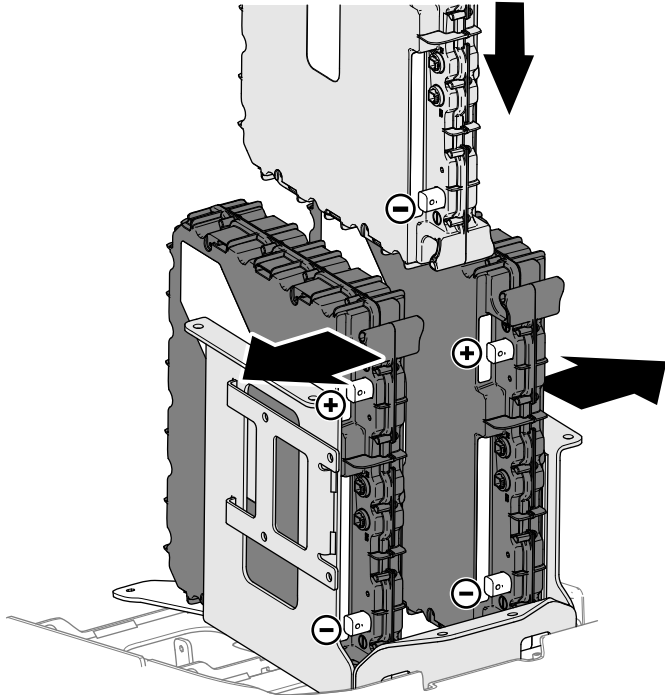

Figure 13
- B. Align the outer batteries so that they are positioned against the left and right sides of the upper mount plate (Figure 13).
- C. Align the center battery so that the battery terminals face rearward, and lower the center battery into the upper mount plate, between the outer batteries (Figure 13).